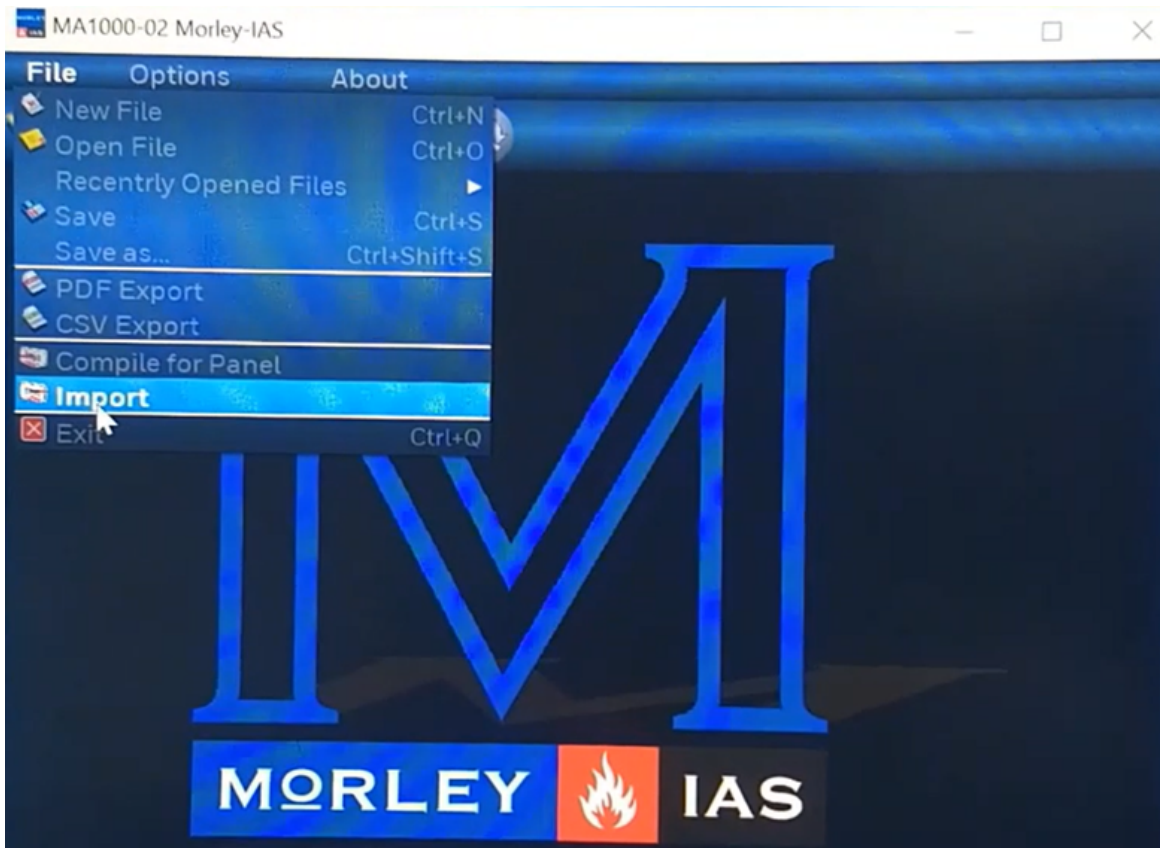
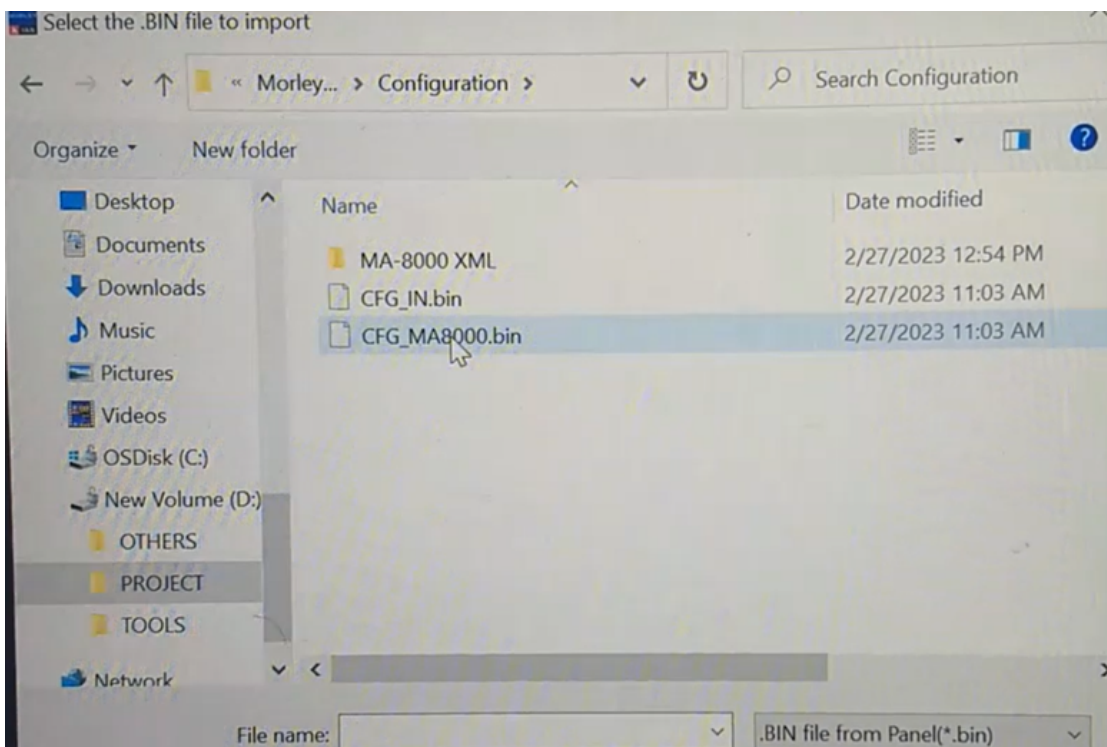

Figure C-41: Morley - IAS Tool
Figure C-42: Config File Import into Morley IAS Tool
- Open Morley MA1000-02 Morley-IAS tool as shown in Figure C-41: Morley - IAS Tool . And import the .BIN configuration file into this tool as shown in Figure C-42: Config File Import into Morley IAS Tool for converting the file into XML formal which can be uploaded to CLSS.